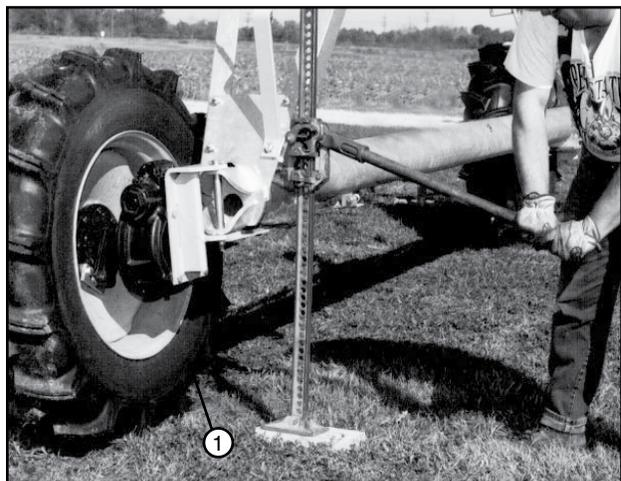

Figure 32-3 1. Tire Shown In Operating Position
- Lower the drive unit and remove the jack. The tire is now in the OPERATING position. See figure 32-3.